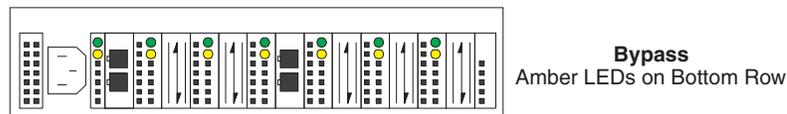

Figure 7. Port Bypass
4. Check the Port Bypass (amber) LEDs. See Figure 7.